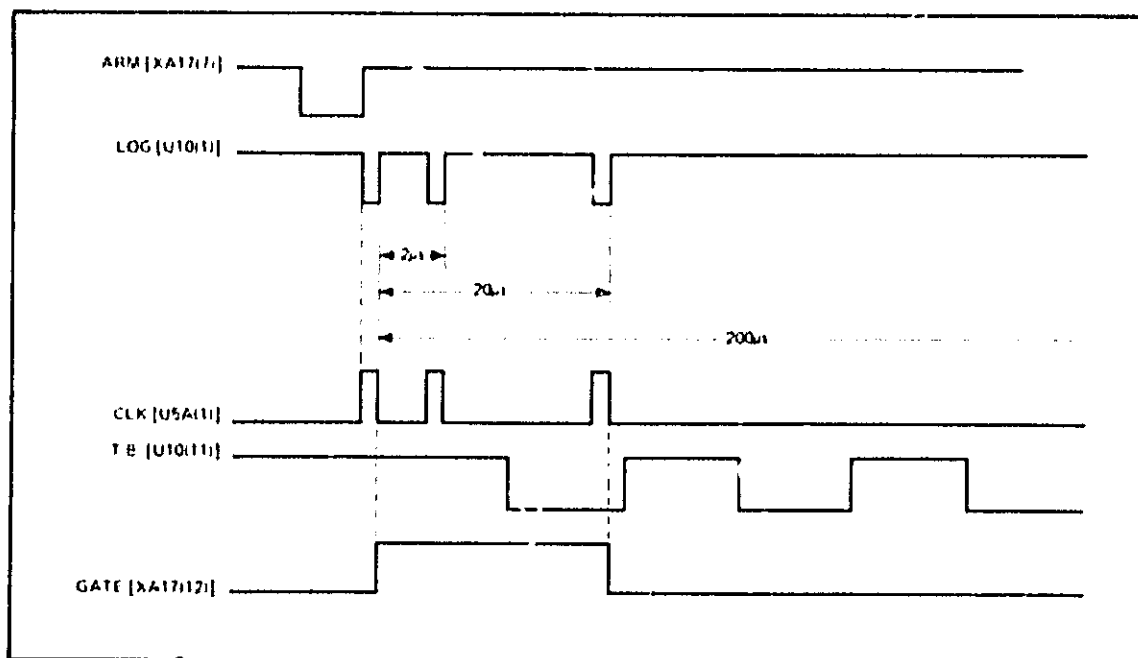

Figure 4-2. 20  $\mu$ s Gate Timing Diagram
4-99. U10 is MOS eight-decade time base IC which provides time base outputs from 2  $\mu$ s to 20 seconds in decade steps for a 5 MHz input. U10 has two outputs: LOG at U10(1), after RESET at U10(4) goes low, outputs one pulse to indicate zero time reference and then a pulse at 2  $\mu$ s, 20  $\mu$ s, 200  $\mu$ s up to 20 seconds in decade steps; T.B. output pulses which are separated by the selected gate time according to the A, B, and C inputs. Since the T.B. output pulses are not very accurate, they are used as level inputs to U5A to select one of the very accurate LOG outputs. Transistors Q3, Q4, Q5 provide buffering and inversion for the U10 outputs. Figure 4-2 illustrates basic operation for a 20  $\mu$ s gate time.